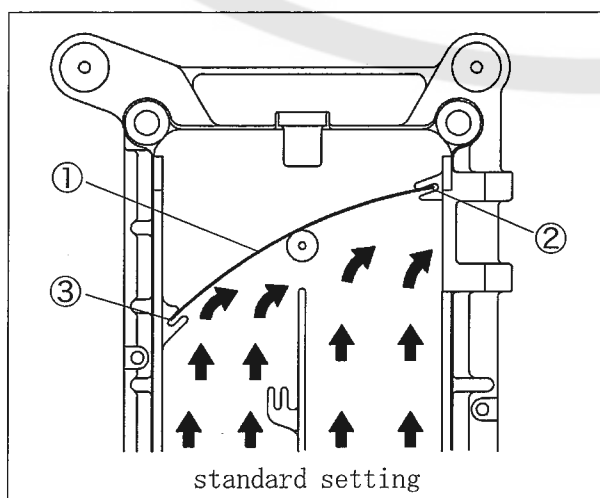

Fig. 2
To set the standard position, insert the air deflector① into the guides② and ③. (See Fig. 2)